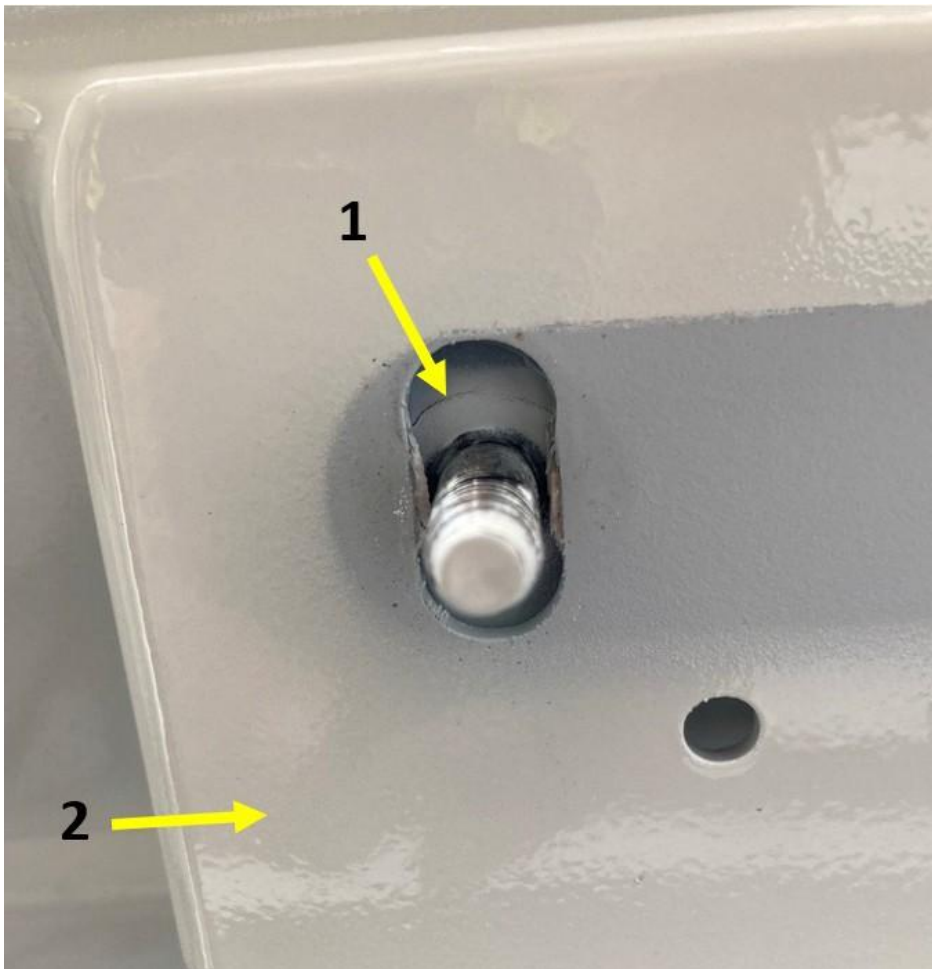

Figure 4
Minor hairline cracks in the reinforcement plate -1- as shown in figure 4 are acceptable provided the stud remains correctly retained within the rear lid structure -2-.
- If no structural damage is present, as shown in Figure 4, proceed to Section: **Condition C - Resin Filler Repair.**